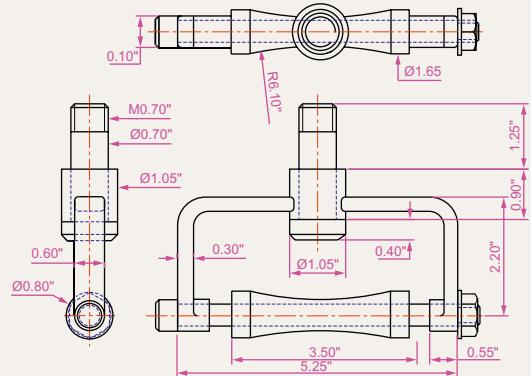
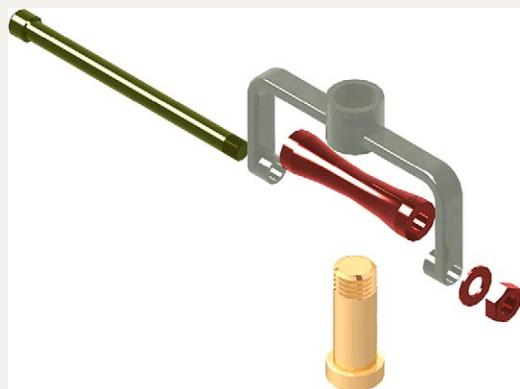

Fig. 18.20 Exercise 1 – orthographic projection
Fig. 18.21 Exercise 1 – rendered 3D model
- Working to the shapes and dimensions as given in the orthographic projection of Fig. 18.20, construct the exploded 3D model as shown in Fig. 18.21. When the model has been constructed add suitable lighting and apply materials, followed by rendering.